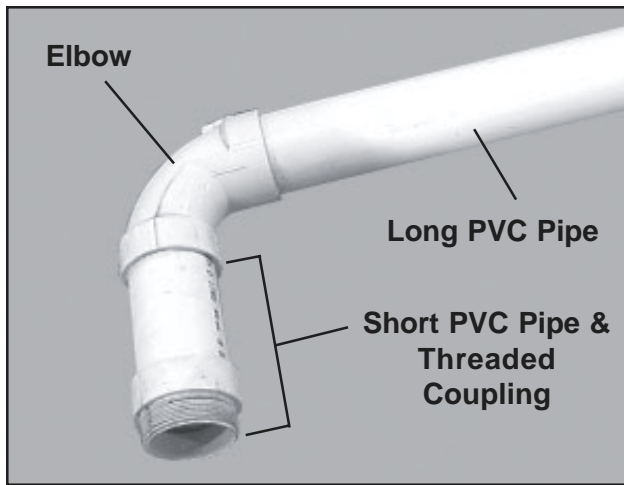

Figure 19. Typical Piping Assembly
1. Find the short piece of 2 in. PVC pipe with the threaded coupling bonded to one end (Figure 19).